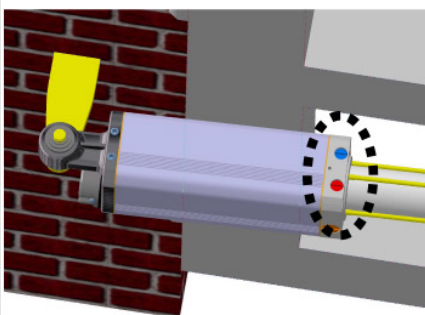

Fig.11
- 8) The closing buffer can then be adjusted **(Fig.11 Page 5)**, thus avoiding the door banging closed. To adjust the closing buffer turn the screw a maximum of 10° (If the buffer valve is completely closed then 15mm of buffering will be lost) .